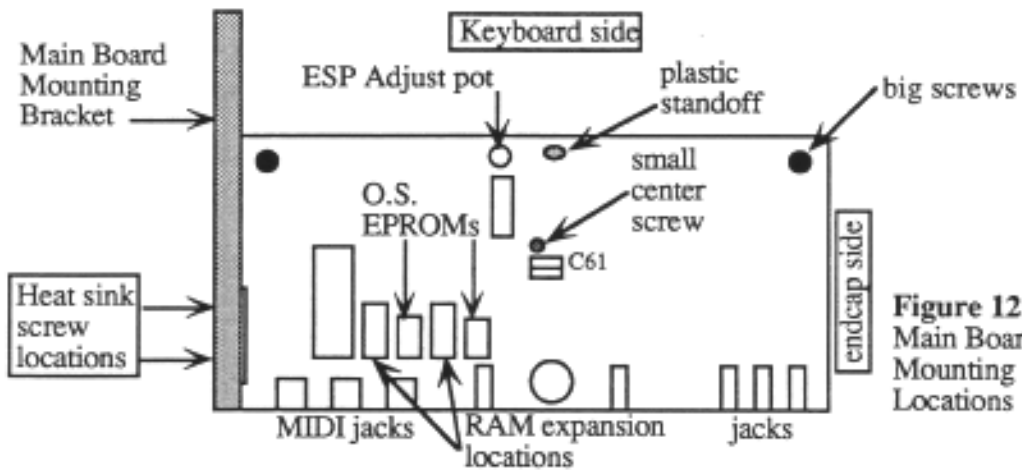

Figure 12—
5. Remove the five (5) nuts from the rear panel jacks marked Ft. Sw., Pedal•CV, Left Mono, Right Mono, and Phones.
6. Remove the Main Board mounting screws (see Figure 12 for locations):